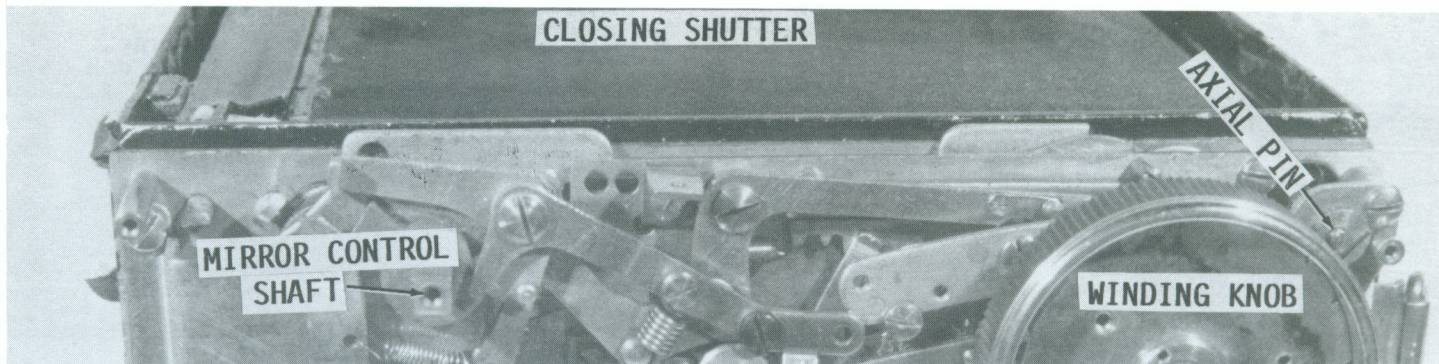
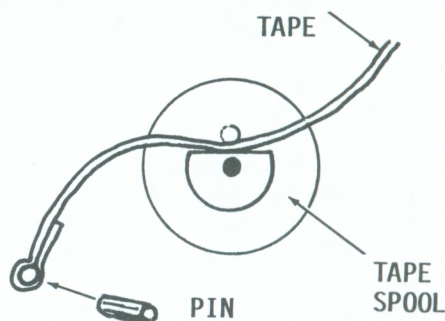
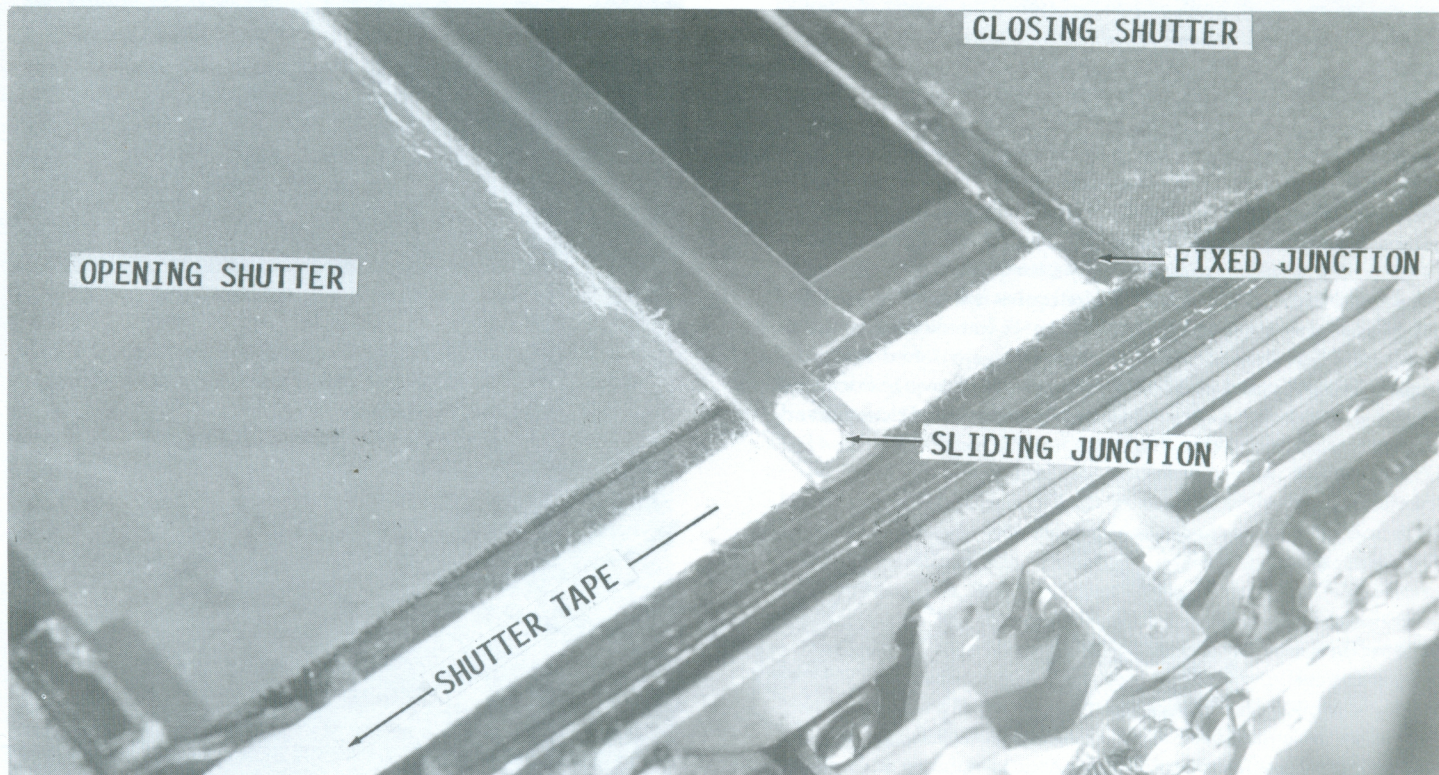

Figure 2. Miroflex shutter and geartrain exposed.
Figure 4. Securing the tape to the spool.
Figure 3. Closeup of the shutter components.
- Place a tape over both ends of the closing shutter axial pin in order to prevent it from slipping out and losing its gear tooth reference (See Figure 2).
While at Contessa-Nettel and Zeiss, Dr. Nagel designed several shutters similar to this one. The closing shutter is wound around a roller on the right side. Its speed is controlled by the geartrain as shown in Figure 2. The opening shutter is wound around a roller on the left. The opening shutter in the mid-exposure position is shown in Figure 3. Notice that each half of the shutter does not have its own tape as do most other focal plane shutters. Only the closing shutter has a tape attached to it. The opening shutter has no tape of its own. It operates in a "piggy back" fashion on the tape of the closing shutter.
- When the shutter is unwound it is as shown in Figure 2. The shutter tape has slid through the sliding junction and there is no shutter opening.
The closing shutter and the tapes should be removed and replaced first. Release the shutter and be sure that it is fully unwound (as in Figure 2), then mark and record the exact location of the metal edge. This reference point is needed to establish the correct slit width for 1/2000 second. Measure the exact width of the cloth (about 140mm) and estimate the length including the portion wrapped around the roller (also 140mm). Measure the thickness of the shutter material (about 0.010 inch). Note: the ends of the tapes must be secured at all times so that they do not get loose and lose the spring tension reference.
The new tape must be installed without letting the spool spin free and losing its reference tension. The tape must pass through the sliding junction as shown in Figure 3. It comes from the bottom, goes over a bar and then down again. The end of the tape is then secured to the spool by sliding a small loop under a bar or pin in the spool, inserting a pin in the loop, and then pulling the tape until it is secure as shown in Figure 4.